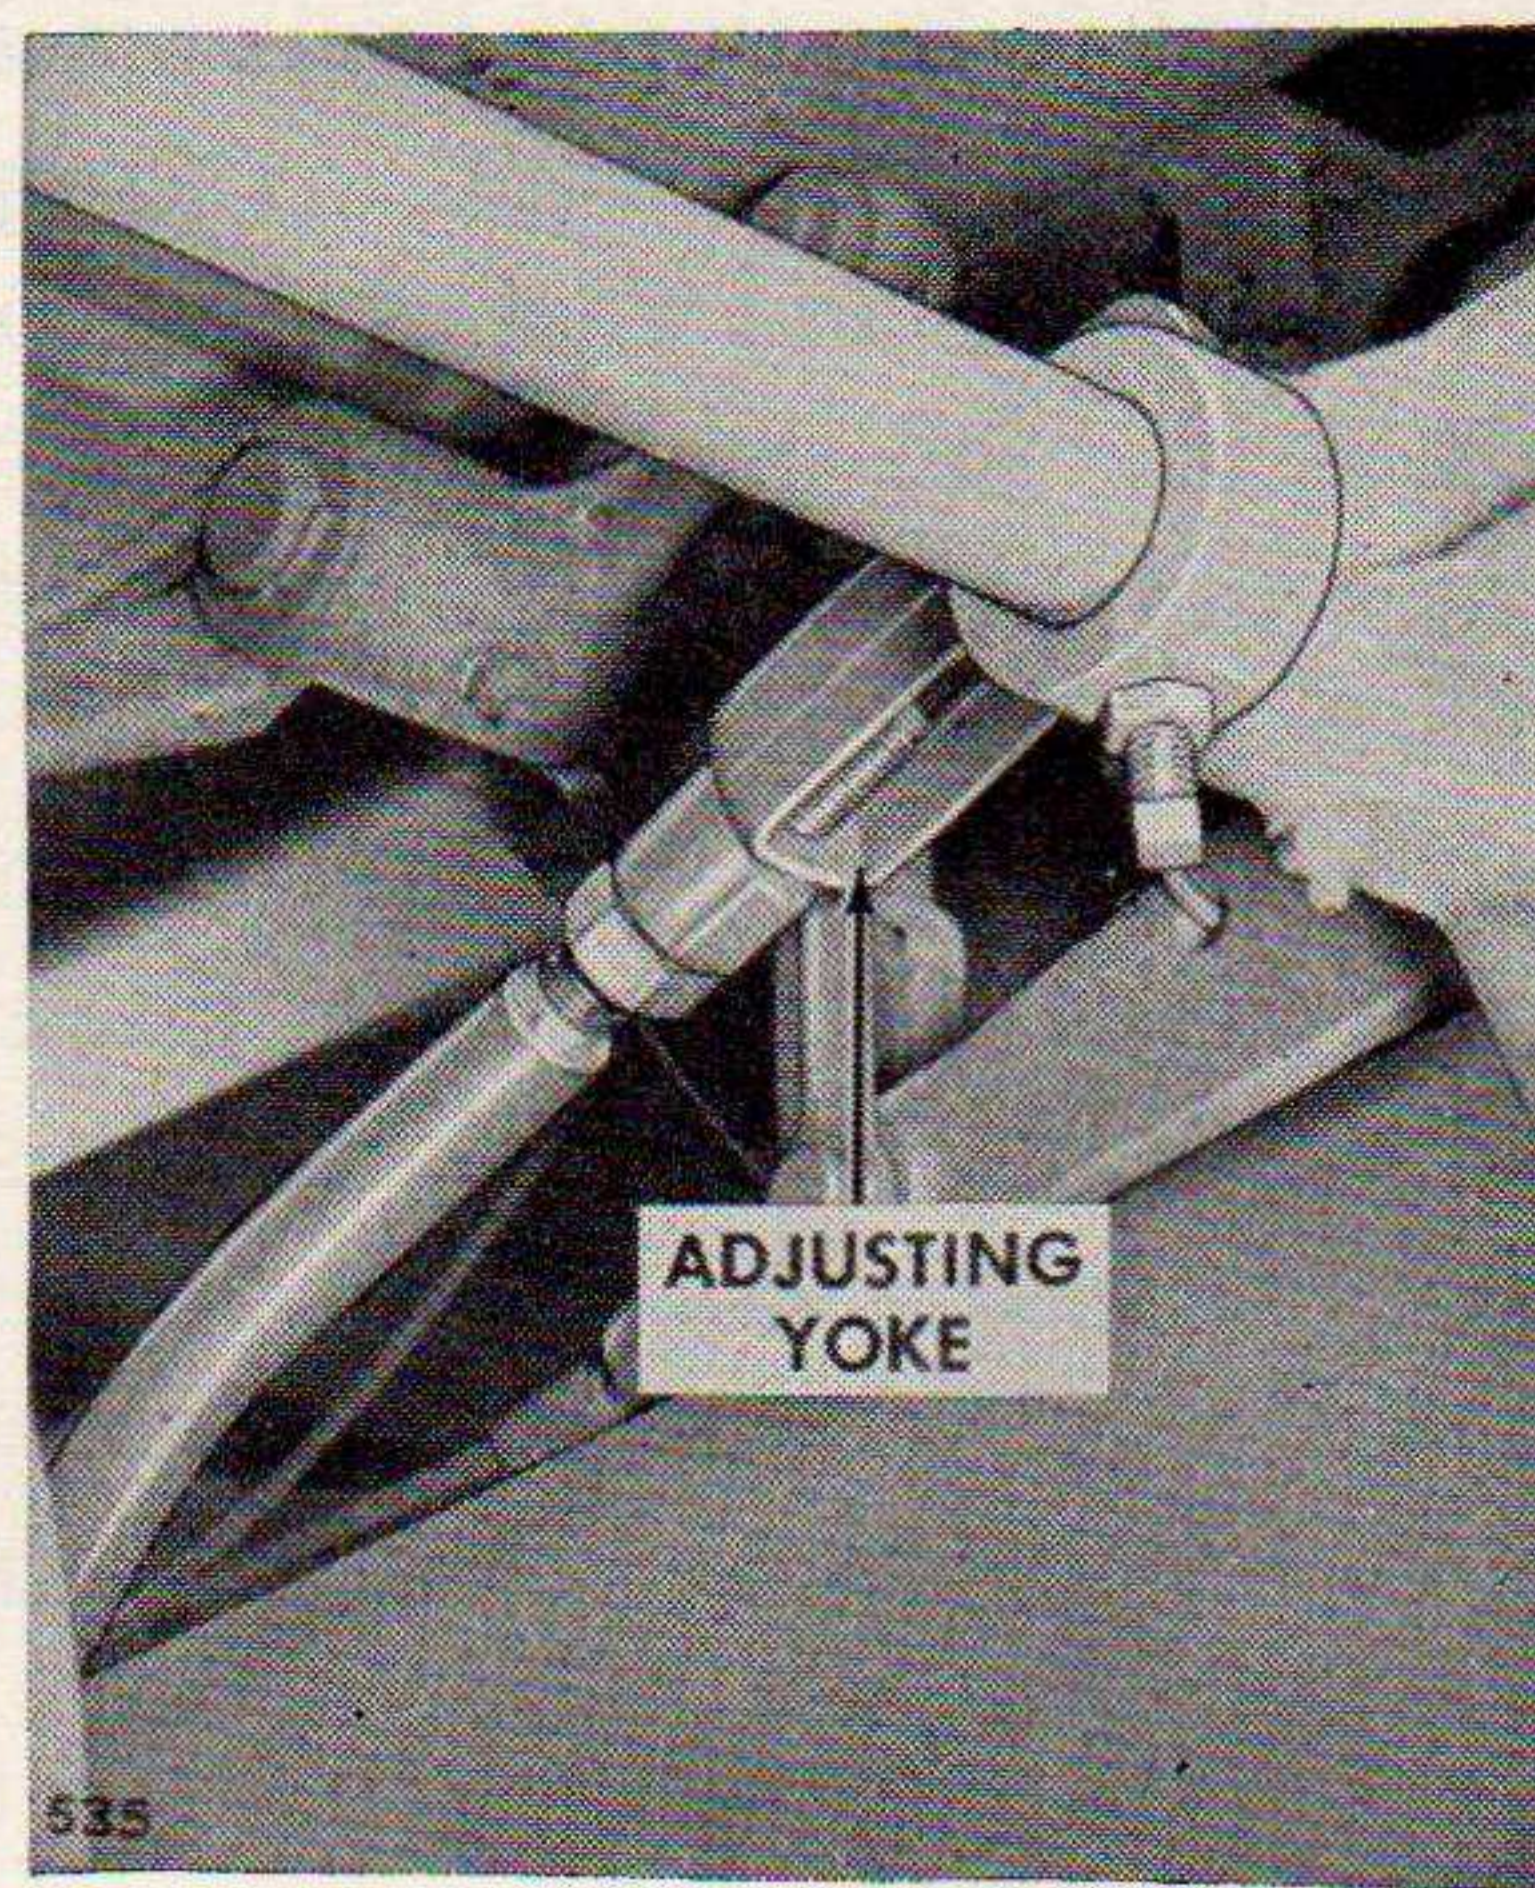

Figure 102. Adjusting clearance between yoke arms and plugs on release bearing.
- (1) Check clearance between yoke arms and plugs. Check the clearance between the yoke arms and the plugs on the release bearing cage with a 0.15-inch thickness gage.
- (2) Adjust rod to obtain desired clearance. Remove the rod from the clutch pedal and turn the yoke end to get the desired clearance between the yoke arms and the plugs on the release bearing cage. (See fig. 102.)